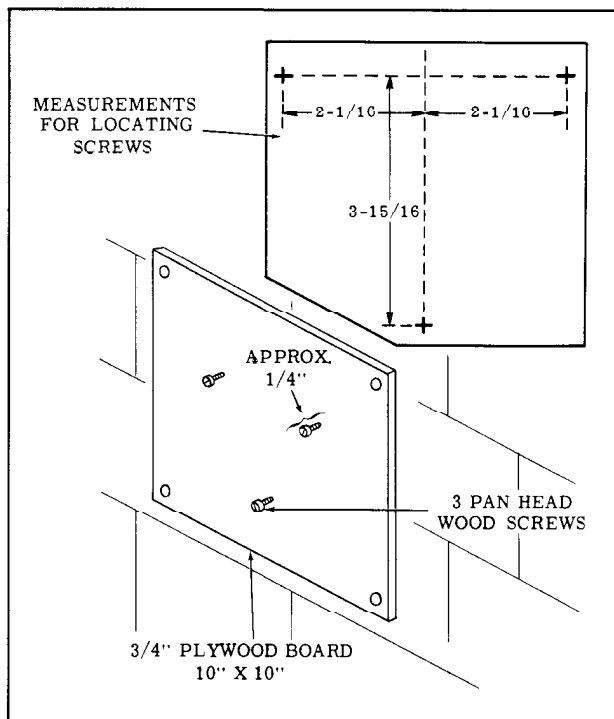

Fig. 13-81 T-3 Calibration Fixture
The factory calibration of the T-3 Aimers may be quickly checked by using an easily constructed checking fixture (Fig. 13-81). Construct such a fixture as follows:
2. Install 3 1/2" No. 6 pan head wood screws on the wooden board as shown in Fig. 13-81 so that the screw heads are approximately 1/4" from the board and spaced as shown.